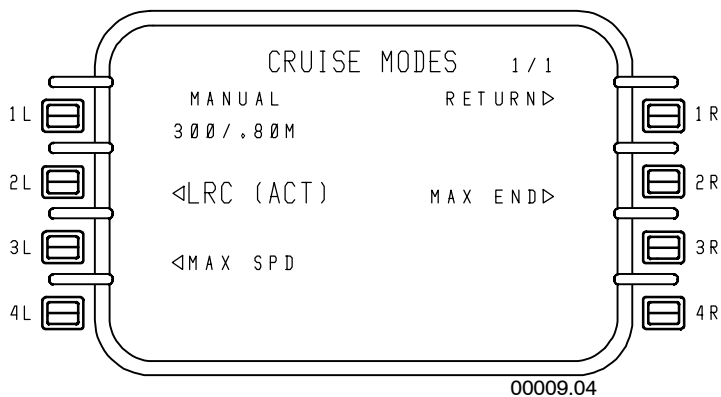

Figure 5-11
- **CRUISE MODES** – Figure 5-11 is available only when using FULL PERF. The available modes for cruise are listed on this page with the active mode annotated.